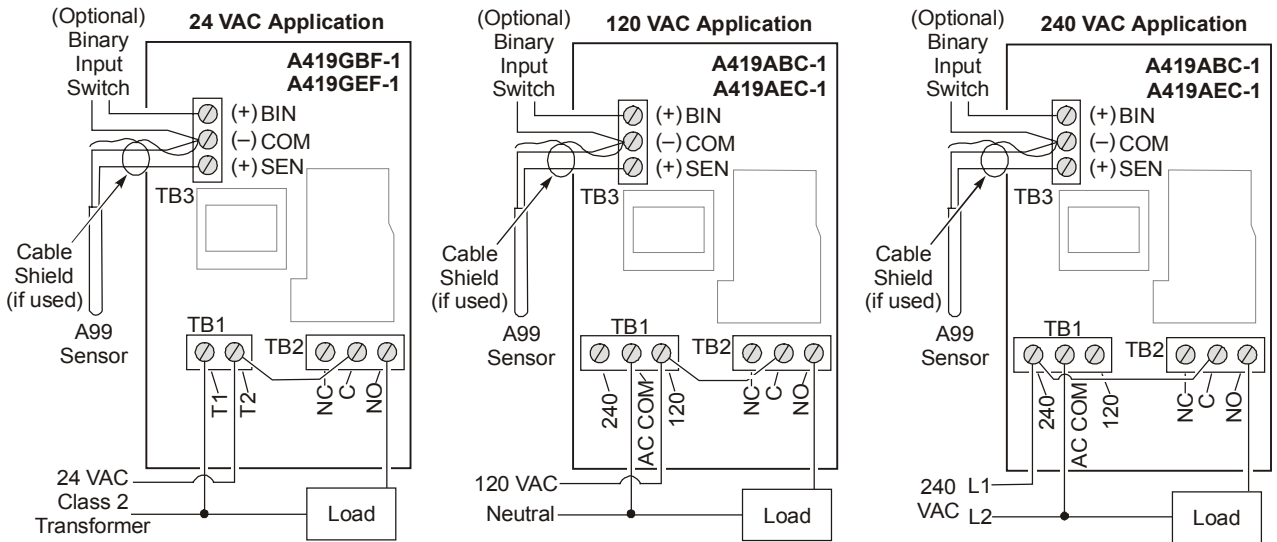

Figure 3: Typical Wiring for the A419 Series Temperature Controls: 24, 120 and 240 VAC Applications
Observe the following guidelines and refer to Figure 3 and Table 1 when wiring the A419 control to your equipment.
- A99 temperature sensors are not polarity sensitive. Wire the leads to (+) **SEN** and (-) **COM** on the sensor terminal block (TB3). See Figure 3.
Temperature Offset (OFS) establishes a set secondary **Setpoint** and **Differential** values that may be invoked to control an application when a circuit is closed between the binary input (**BIN**) and common (**COM**) terminals (and **BIN** appears on the display). See Figure 3. Offset range is 0 to 50F° or C° (in 1-degree increments). A typical application might use a switching time clock to invoke night-setback temperature settings.
- b. Use a reliable AC voltmeter to check the voltage between the **COM** and **120V** or **240V** terminals on-line voltage models and the two **24V** terminals on low-voltage models. Refer to Figure 3.